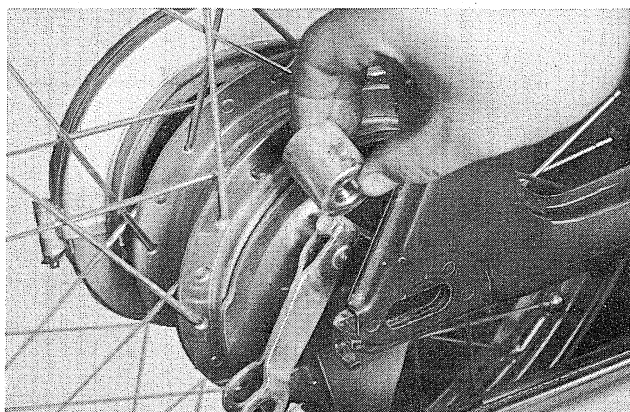

Fig. 4-2-6
- 3) Remove the distance collar. (Fig. 4-2-6)